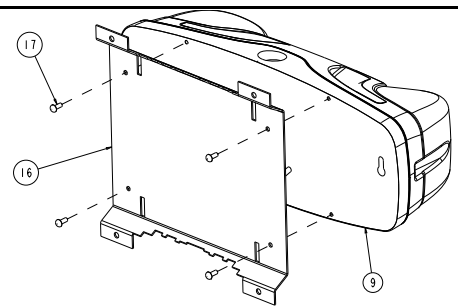

Figure 4
- a. Universal bracket (part 16 on figure 4) is an accessory and needs to be ordered separately. Remove knockout on top of the backplate for conduit entry.
- c. Install the universal bracket as shown in figure 4. Don't install the gasket (9). This type of installation is not NSF certified for food processing areas.